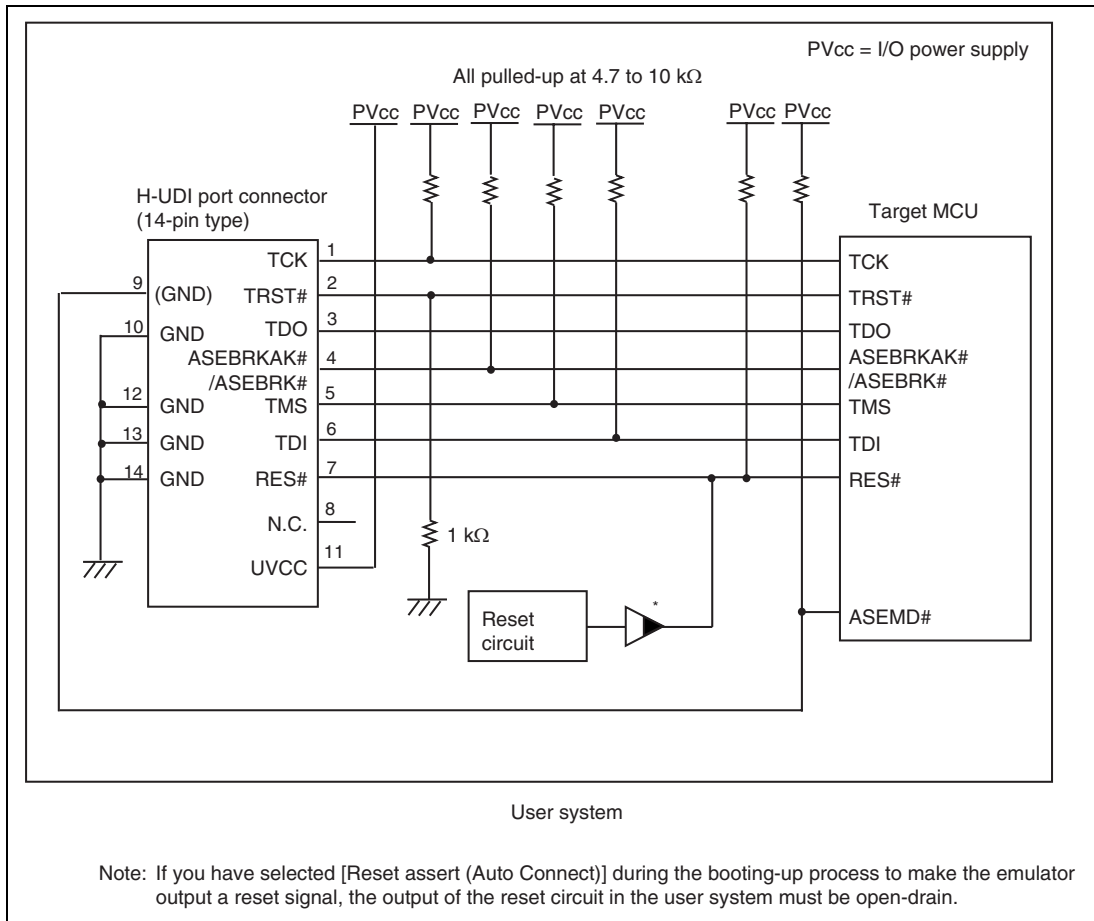

Figure 1.9 Recommended Circuit for Connection between the H-UDI Port Connector and MCU when the Emulator is in Use (14-Pin Type)
Figure 1.9 shows a recommended circuit for connection between the H-UDI port connector (14 pins) and the MCU when the emulator is in use.
- (1) When the emulator is used: ASEMD# = 0
- (2) When the emulator is not used: ASEMD# = 1Figure 1.9 shows an example of circuits that allow the ASEMD# pin to be GND (0) whenever the emulator is connected by using the user system interface cable. When the ASEMD# pin is changed by switches, etc., ground pin 9. Do not connect this pin to the ASEMD# pin.
6. The resistance value shown in figure 1.9 is for reference.
When the circuit is connected as shown in figure 1.9, the switches of the emulator are set as SW2 = 1 and SW3 = 1. For details, refer to section 3.8, Setting the DIP Switches, in the SuperH™ Family E10A-USB Emulator User's Manual.